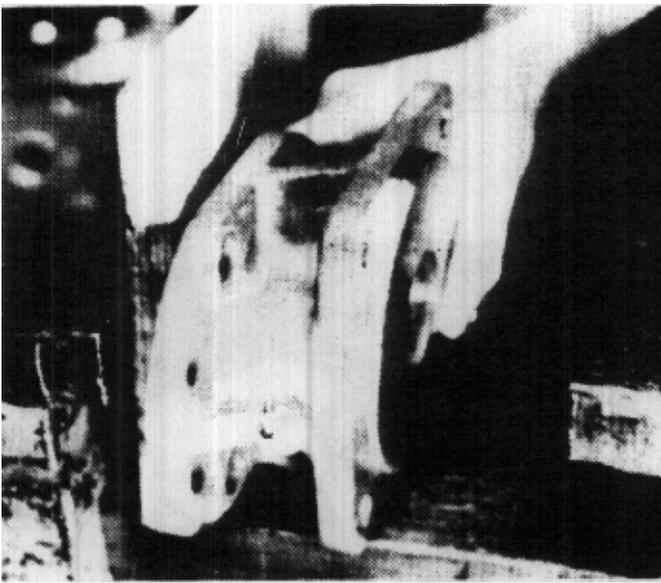

FIGURE 110
6. Wash and dry the bore again and place the flange between the open jaws of a vise. With the back of the flange facing the stationary jaw, place a clean, smooth block of wood between the jaw and the flange to protect the machined surfaces (Fig.110)